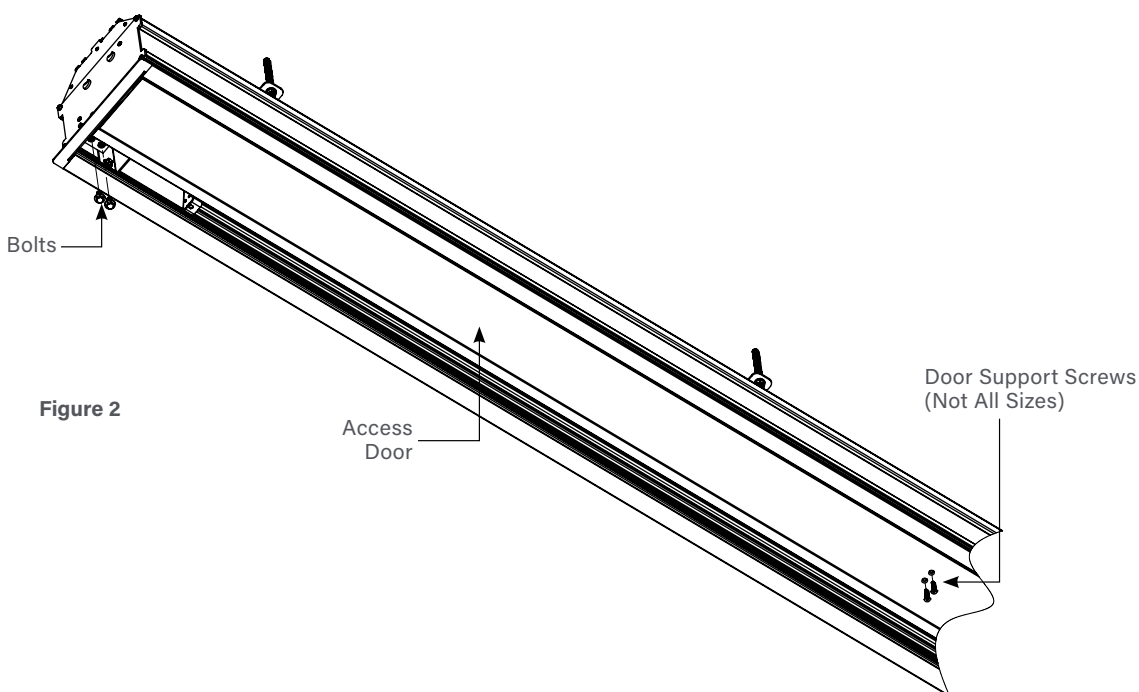

Figure 2
1. Remove four bolts from ends of door assembly (2 bolts on each end) (Fig. 2). This will allow the door assembly to drop open for access to case. For larger sizes, you will also need to remove the door support screws.
9. Carefully remove tape strips securing picture surface around roller. Slat should move freely (Fig. 2). (Only if the roller assembly is pre installed).
11. Close door assembly and replace four bolts at ends of door (2 bolts on each end) (Fig. 2).